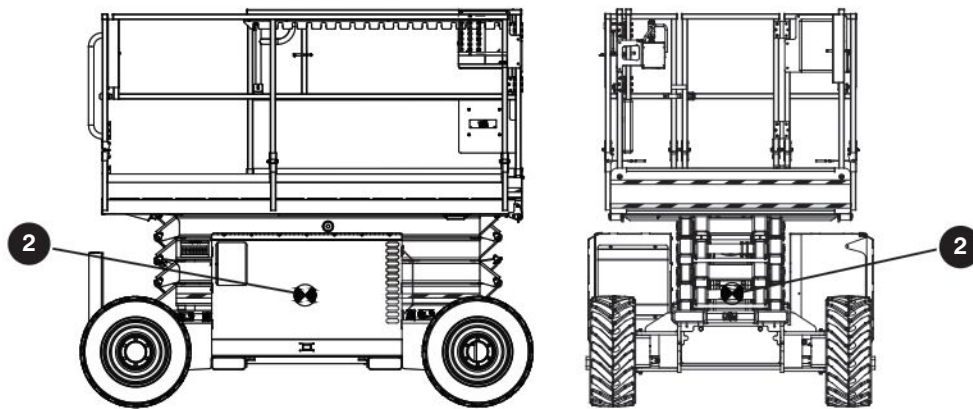

Figure 07 MEWP Center of Gravity
For the weight of the MEWP, refer to section 7.3. Horizontally, the **center of gravity** ② is approximately in the middle of the MEWP, front to back and side to side. Refer to Figure 07. Vertically, the center of gravity is approximately a small distance above the chassis.